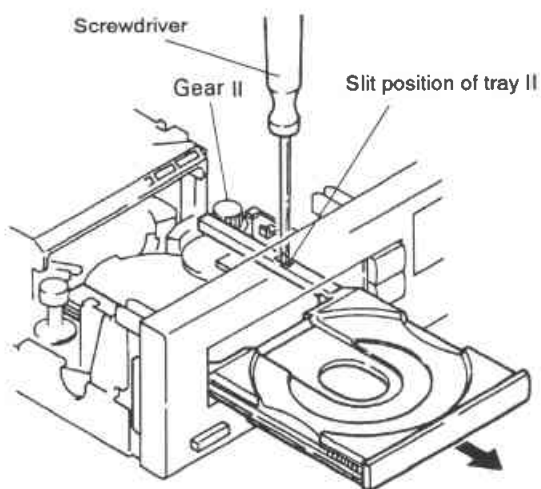

Fig. 1
- 1 Use nippers or other tool to cut the two sections marked (A) in figure 1. Then remove the spacer.
- 2 While supporting the spindle motor shaft with the stopper, put spacer on top of the motor base (angled so it doesn't touch section (B)), and stick the disc table on top (takes about 9kg pressure). Take off the spacer.